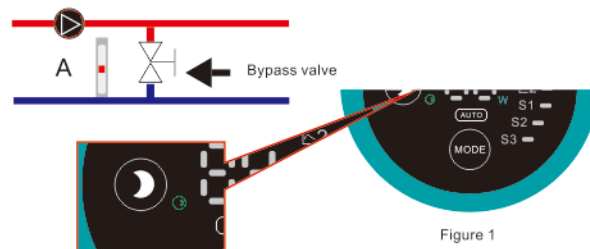

Figure 1
1. When installing the pump in the pipeline, it needs to install the two sealed gaskets provided.(as steps in Figure 1)
- Loosen it and take out four hex. Bolts that fixes the pump head. (Figure 1)
8.3.1 When adjusting the bypass valve, ensure that the pump is in setting I speed I mode. (Figure 1)